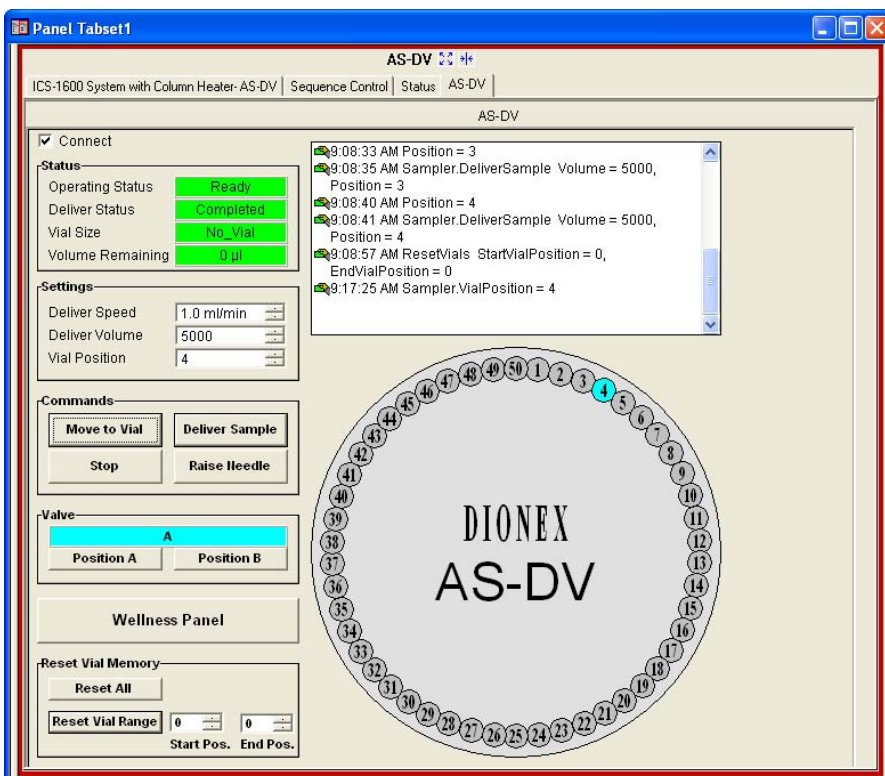

Figure 3-5. Example Chromeleon 6.8 Panel Tabset: Dionex AS-DV Control Panel
- To display the Dionex AS-DV Control panel, click the **AS-DV** tab (see Figure 3-5).